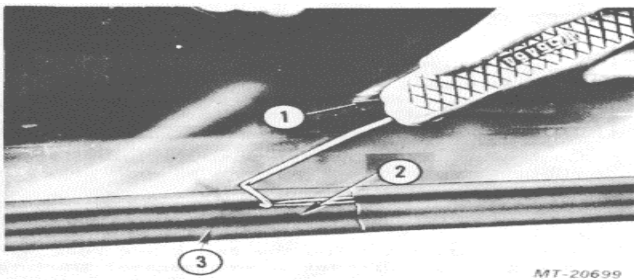
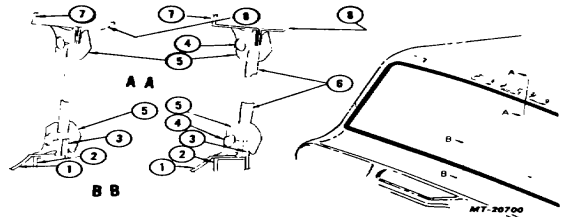

Fig. 31. Removing Windshield Weatherseal Insert
Fig. 32. Windshield Weatherseal (Retainer)
3. Pry integral or detached insert from weatherseal with a thin blade screwdriver or sealtool (SE-2442) (Fig. 31) around entire glass. See Fig. 32 for details of weatherseal.
- Work weatherseal insert (Fig. 31) down into groove provided around entire weatherseal. Use seal tool or a dull screwdriver to seat